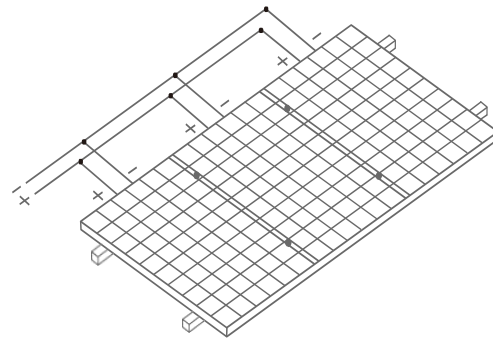

Figure 18 Connection in parallel
- When connected in parallel, the output current of the whole string of modules is equal to the sum of the current of each branch module or module string (the parallel connection mode is shown in Figure 18). Each string of modules shall be equipped with a fuse. The reference formula for the maximum number of modules in parallel connection: maximum protective current/(1.25 * short-circuit current). Please refer to the national or regional or local specifications for details.